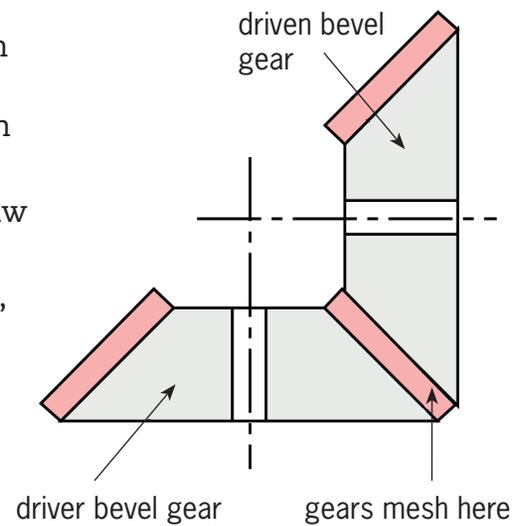

Figure 2: Drawing of two bevel gears that mesh
Look at Figure 2. It shows how you would draw two bevel gears of equal size.
1. Copy Figure 2 as a hand drawn sketch, showing all labels and centre lines.